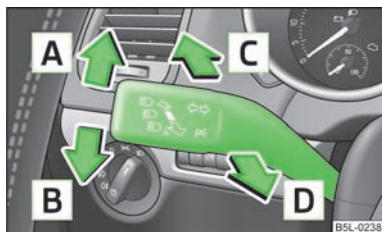

Fig. 29
- > Push the lever upwards » Fig. 29 or downwards .